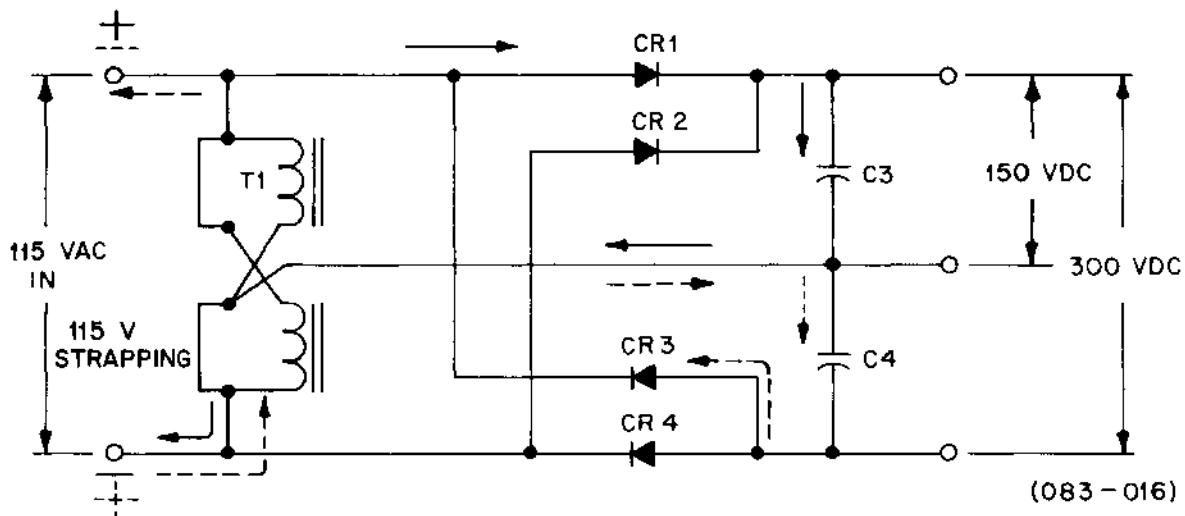

Figure 2-34. Simplified Input Rectifier/Filter/Doubler Section
2.9.1.1 Input Filter (See Figures 2-34 and 2-35)
The input filter consists of L1, C1, and C2, that form an RF noise suppression filter. R1 and R2 are thermistors with a high resistance at low temperature. The thermistors limit the input start-up current. The filter operation, including polarity and current flow is described by Figures 2-34 and 2-35. The strapping connections at T2 allow the use of the same assembly for 115 or 230VAC input. R3 and R4 are the bleeder resistors.